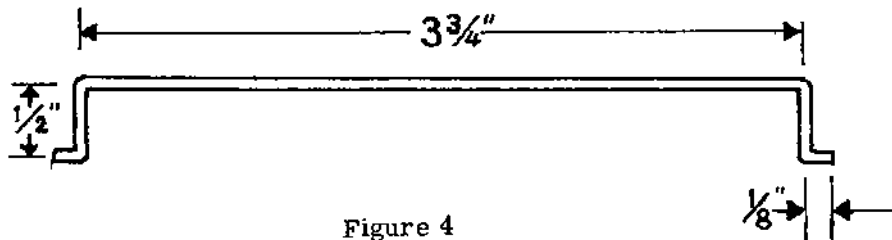

Figure 4
- (✓) Connect the leads from the bifilar coils to the solder lugs on the polystyrene bar; lead 1 to solder lug A, lead 2 to solder lug B, lead 3 to solder lug C, and lead 4 to solder lug D. Cut off the excessive length from each lead (NS).
- (✓) Repeat the above connections on the other bifilar coil, lead 5 to solder lug E, lead 6 to solder lug F, lead 7 to solder lug G, and lead 8 to solder lug H (NS).
- (✓) Cut a piece of #14 wire 4 3/4" in length. Bend and form the wire as shown in Figure 4. Connect one end to solder lug A (S-2) and the other end to solder lug E (S-2).
- (✓) Cut a piece of #14 wire 4 3/4" in length. Bend and form the wire as shown in Figure 4. Connect one end to solder lug C (S-2) and the other end to solder lug H (S-2).
- (✓) Cut a piece of #14 wire 4 3/4" in length. Bend and form the wire as shown in Figure 4. Connect one end to solder lug C (S-2) and the other end to solder lug G (S-2).